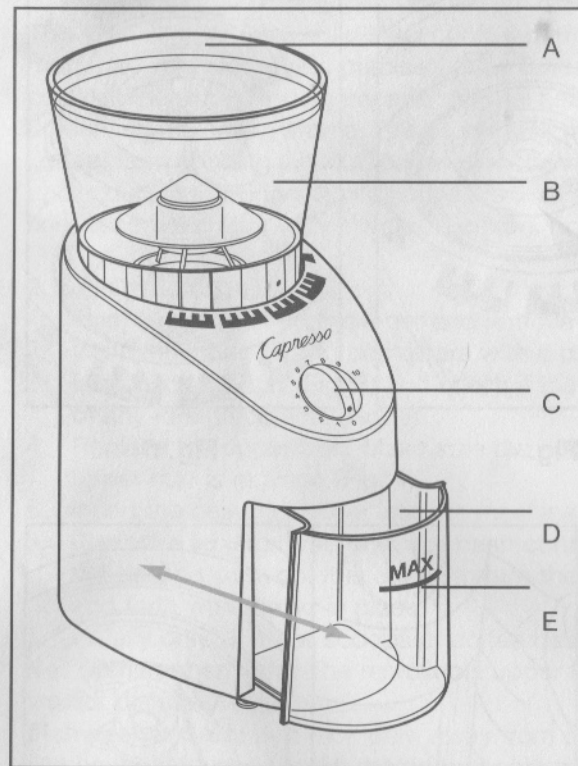

Fig. 1
13. Check bean container (B) for presence of foreign objects before using.
14. To prevent clogging and overheating of motor, never grind above the "Max-Line" of the ground coffee container (Fig. 1, E).
6. Place the lid (Fig. 1, A) onto the bean container before turning it to the desired position. It is easier to turn the bean container back and forth with the lid in place.
9. **Important:** Never let ground coffee exceed the Max-Line on the ground coffee container (Fig. 1,E). Too much coffee in the ground coffee container can back-up into the feeder channel. If grinding continues this can burn out the motor.
3. When the bean container points to one of the grind settings, turn the timer (Fig. 1,C) to any position and grinding will start.